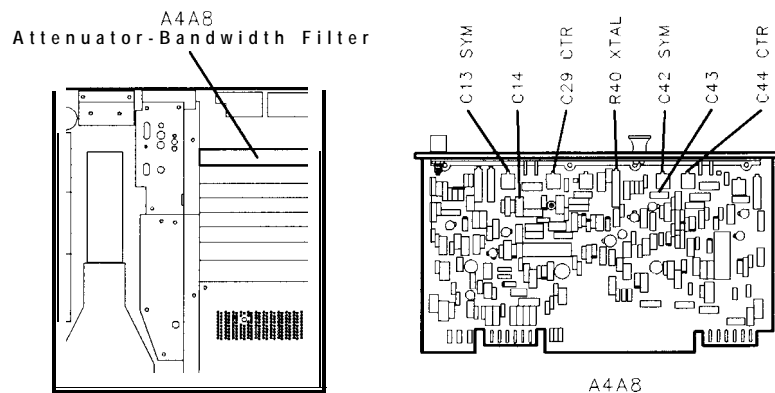

Figure 3-44.
39. Adjust **A4A8C44** CTR to center signal on center graticule line. Adjust **A4A8C42** SYM for best symmetry of signal. See Figure 3-44 for location of adjustments. If unable to adjust **A4A8C42** SYM for satisfactory signal symmetry, increase or decrease value of **A4A8C43**. Refer to Table 3-3 for range of values.
41. Adjust **A4A8C29** CTR to center signal on center graticule line. Adjust **A4A8C13** SYM for best symmetry of signal. See Figure 3-44 for location of adjustments. If unable to adjust **A4A8C13** SYM for satisfactory signal symmetry, increase or decrease value of **A4A8C14**. Refer to Table 3-3 for range of values.
45. Adjust A4A8R40 XTAL to align markers on display. MARKER A level should indicate 1.00 X. See Figure 3-44 for location of adjustment.